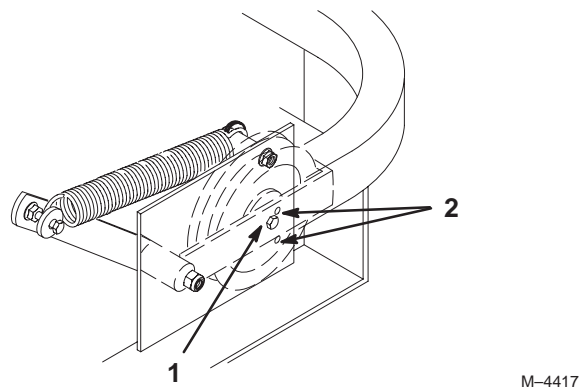

Figure 64
6. Check the belt tension. The center bolt of the spring loaded idler must be between the two alignment holes in the left support plate (Fig. 64).
Note: Check the position of the center bolt in the low height of cut setting. The center bolt must be at or below the top alignment hole. Check the position of the center bolt in the high height of cut setting. The center bolt must be at or above the lower adjustment hole (Fig. 64).
8. Check the belt tension again. The center bolt of the spring loaded idler must be between the two alignment holes in the left support plate (Fig. 64). Adjust it, if necessary, and tighten all hardware securely.